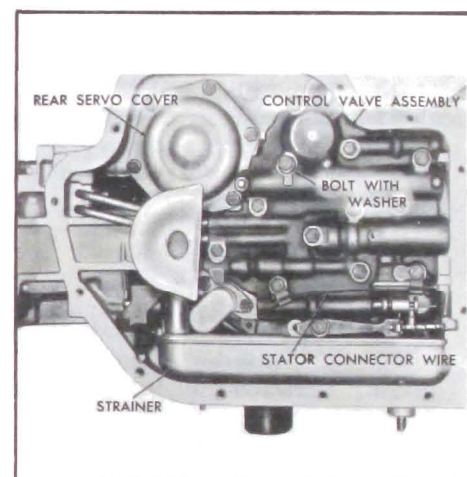

Figure 5-508
6. Remove oil pan and gasket. See Figure 5-508.